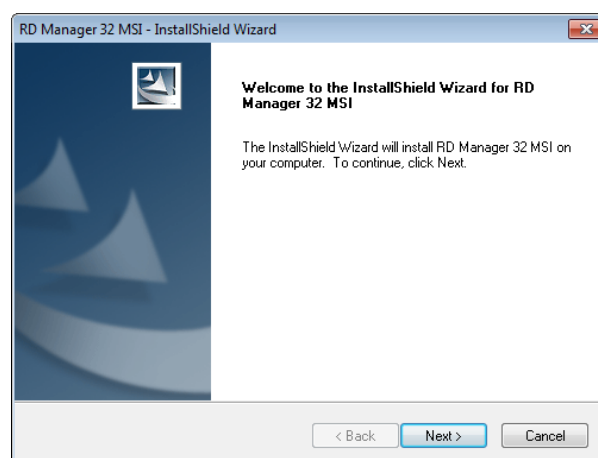

Figure 1.2 InstallShield Wizard
4. Follow the InstallShield Wizard instructions, figure 1.2